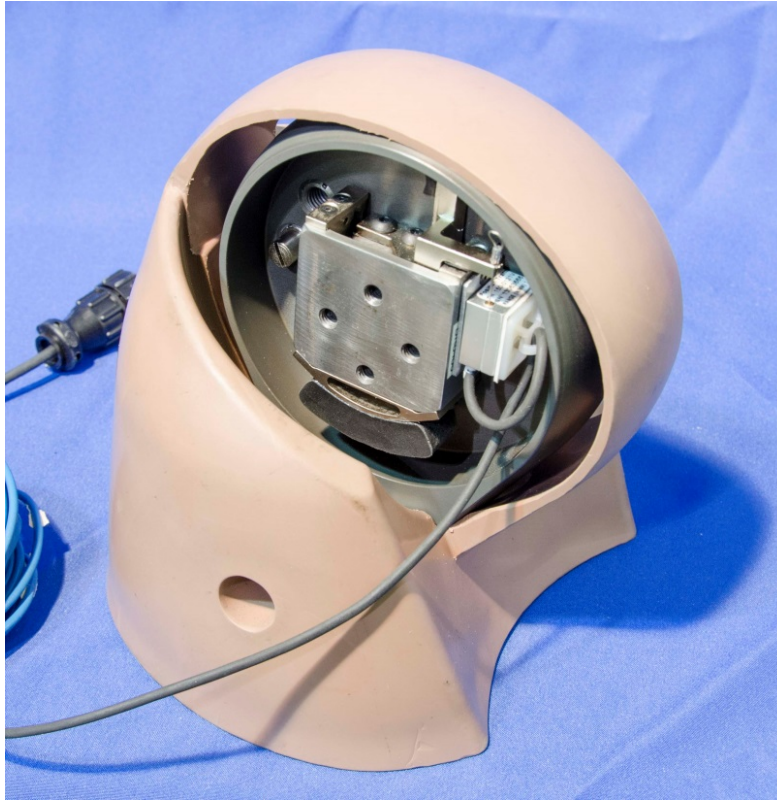

Figure 11-19. Install knee flesh
11.2.2.12 Place the Left Knee Flesh (472-5502) over the left knee cap assembly. (472-5300) (Figure 11-19).